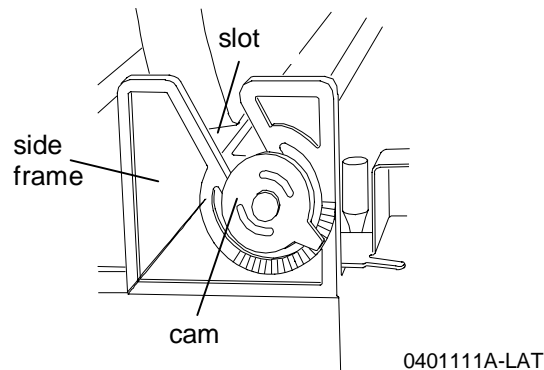

Figure 1.
5. Rotate the carriage shaft cams so that their flats are aligned with the sides of the slot on each side frame (Figure 1).